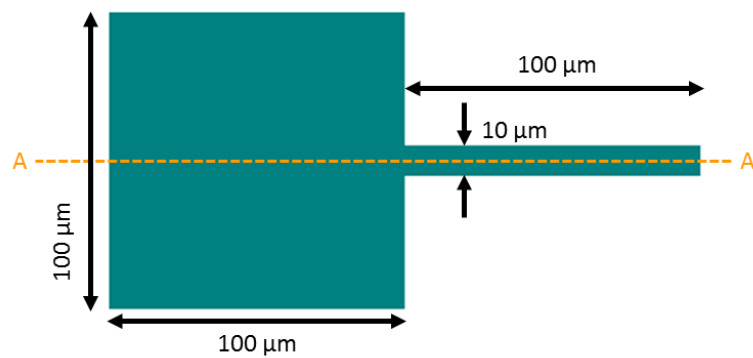

Figure PS3.2
2. Suppose the layout shown in Figure PS3.2 is used to fabricate a clamped-free beam using a single mask process whose details are given below:
- iv. Do lithography: Spin and expose photoresist with the single mask layer shown in Figure PS3.2.